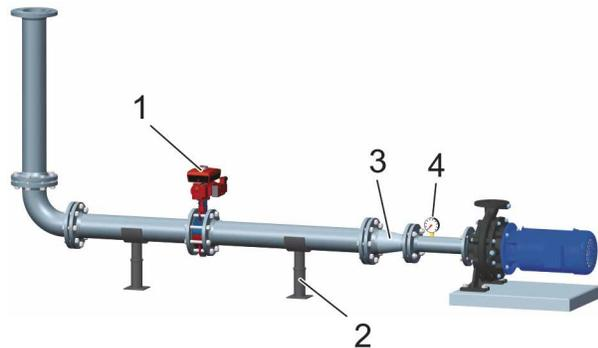

Fig. 33 Layout of the suction side (example: herborner.F-N)
1. Route the pipes from the swimming pool to the inlet/suction side flange and support all pipes evenly (Fig. 33/2).
3. Install a gate valve at an easily accessible location upstream of the pump (Fig. 33/1).
4. If the pump's flange is smaller than the pipeline, place an eccentric reducing adapter upstream of the flange (Fig. 33/3).
5. If necessary, fit a pressure gauge immediately upstream of the pump in a straight piece of pipe, which is at least three times as long as the pipe's diameter, in order to read pressure (Fig. 33/4).